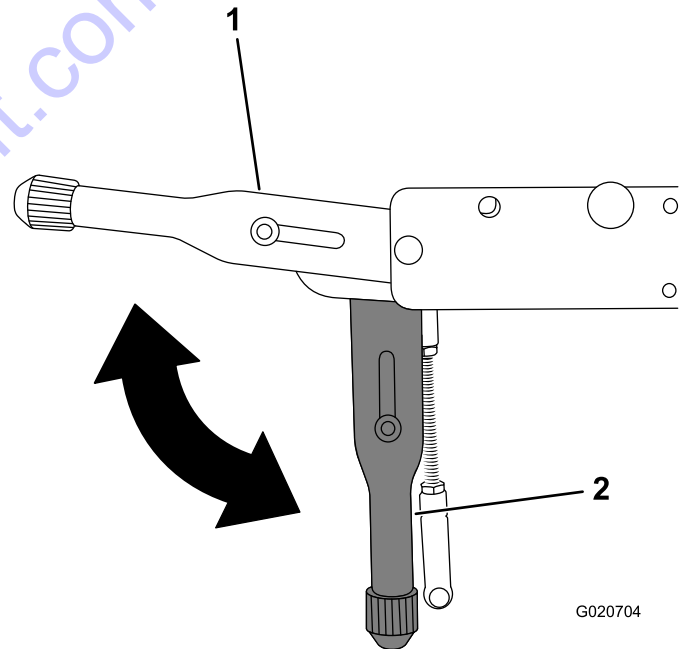

Figure 27
2. Pull the parking brake lever up to engage the brake and start the engine (Figure 27).
5. Push the parking brake lever down to disengage the brake (Figure 27).
2. Engage the parking brake (Figure 27).
6. Release the parking brake (Figure 27).
3. Disengage the parking brake (Figure 27).